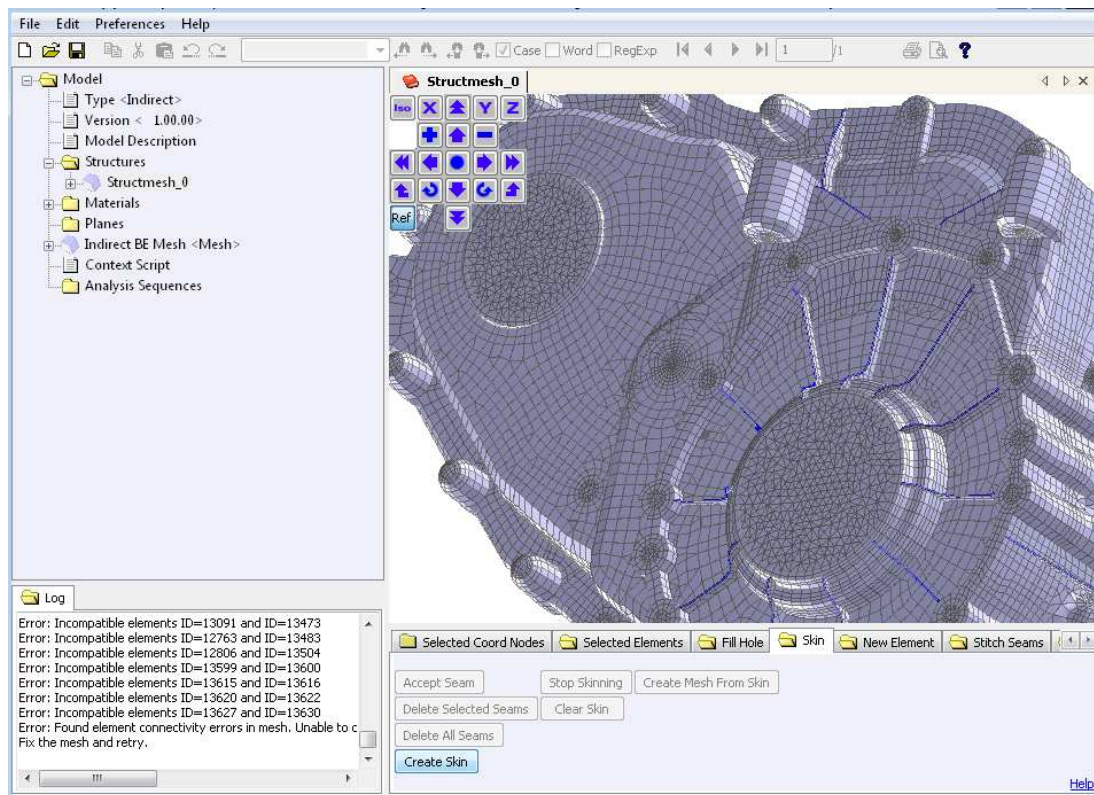

Figure 5.19: Press **Skin** → **Create Skin** to check for incompatible elements.
- Press **Skin** → **Create Skin** button. If the FE structure mesh has elements with bad coordinate connectivity then *Coustyx* throws error messages in the log window and asks the user to fix these Bad Elements before attempting to skin again. (Figure 5.19)